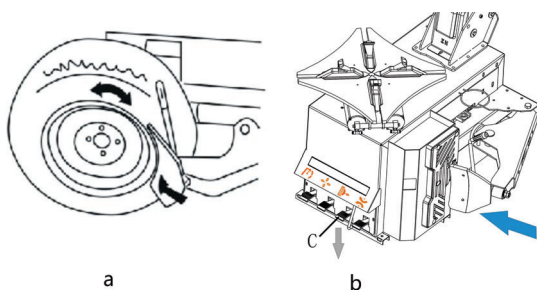

Fig.17
- Place the tire between the bead breaker shoe and rubber pad and keep the shoe between the bead and rim, about 1cm to the bead (Fig.17-a). Depress pedal C (Fig.17-b) to separate the tire from rim.